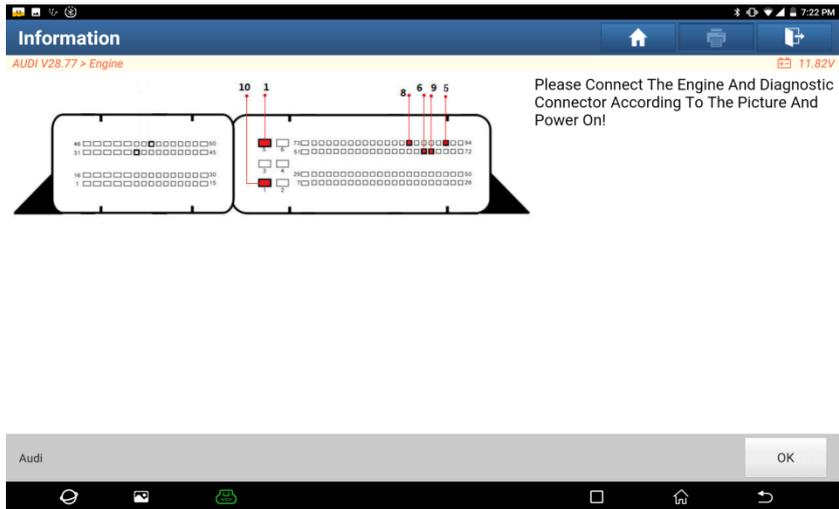
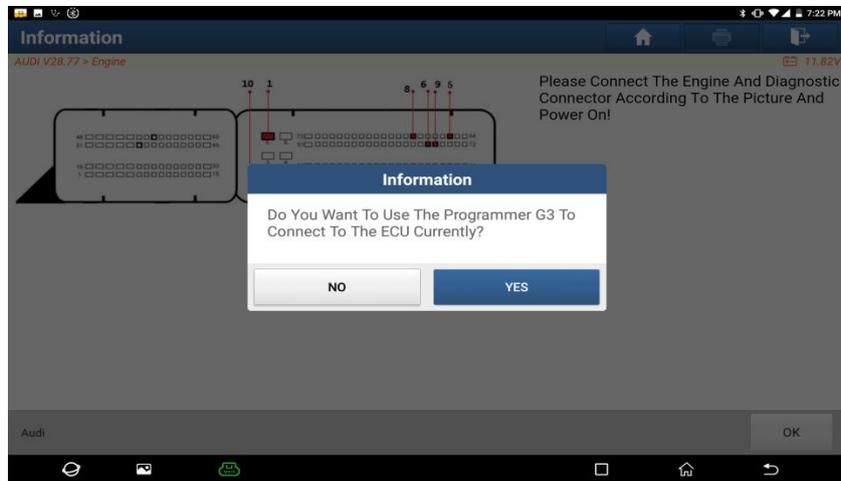

Figure 12
Figure 13
3.2.1.10 MED17/EDC17 Engine data can be read directly (by skipping Gateway to read), Siemens Engine data can be obtained by other methods and then select [Manual Input Data], click [Directly Read IMMO data], as shown in Figure 12. Then click [Yes] if using G3 to connect with Engine, if not, click [No]. We click [Yes] to read data in this case, as shown in Figure 13 and 14.